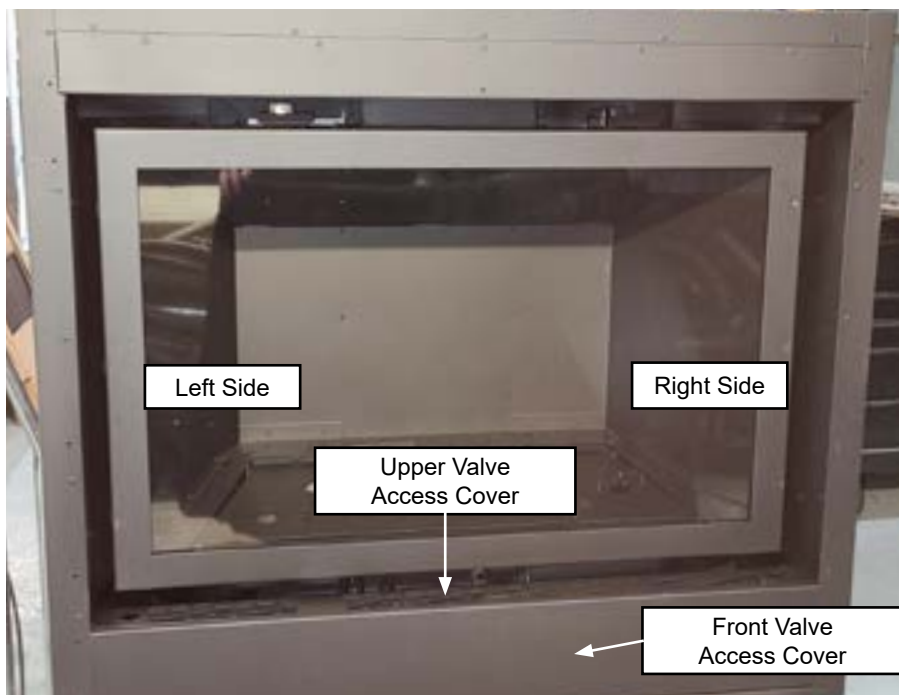

Figure 6.1.01:
*Left and right side references in this manual correspond with the sides identified in **Figure 6.1.01**.